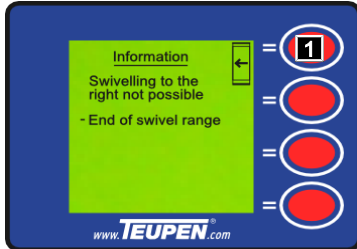

Fig. 78
2. Use the [function key] (Fig.78/1) to return to the previous level.